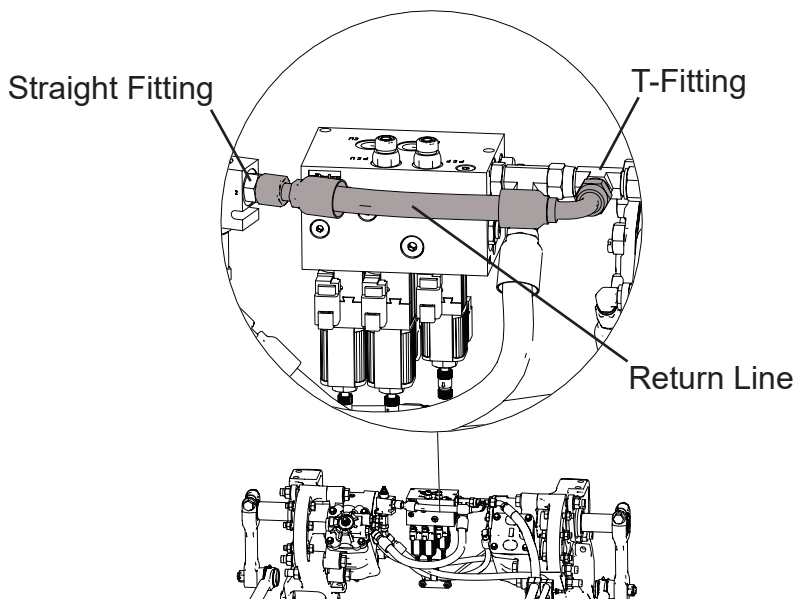

Figure 5
15. Connect the straight end of return line (A000U498) to relief valve straight fitting. See Figure 5.
16. Connect the 90° end of return line to T-fitting installed in Step 13. See Figure 5.